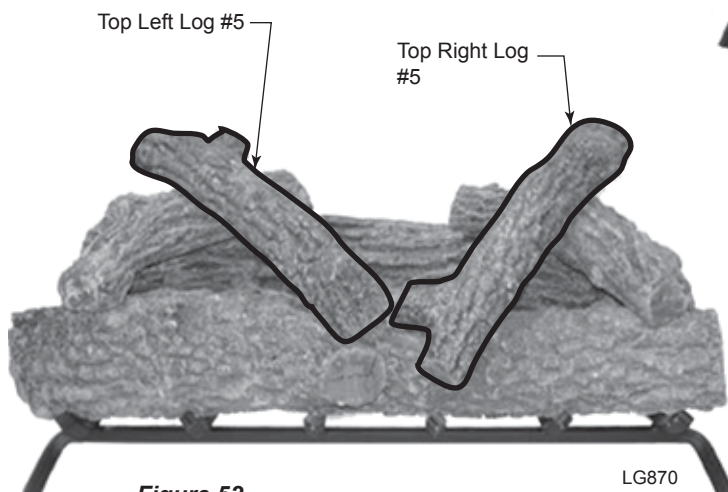

**Figure 52 -
5. Rest Top Right/Left Log #5 on Log # 4 and Log #1. *Figure 52*
6. Rest Top Right/Left Log #5 on Log 4 and Log #1. *Figure 52*